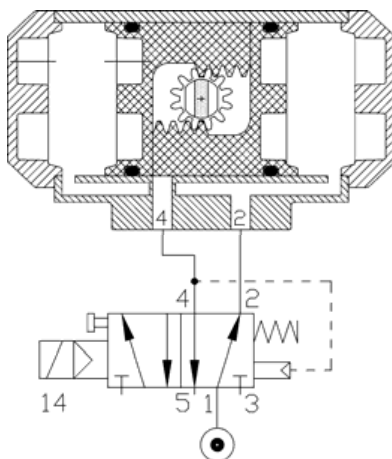

Figure 3
The SV61/71/91 valves have the operating coils on the left side of the valve and operate as shown in figures 3 and 4.
- **4 way (4/2)** for Double Acting actuators: air goes from the supply Port 1 to the Port 2, filling up the chambers the cavity between the pistons and the end caps, closing the actuator (see fig. 3)